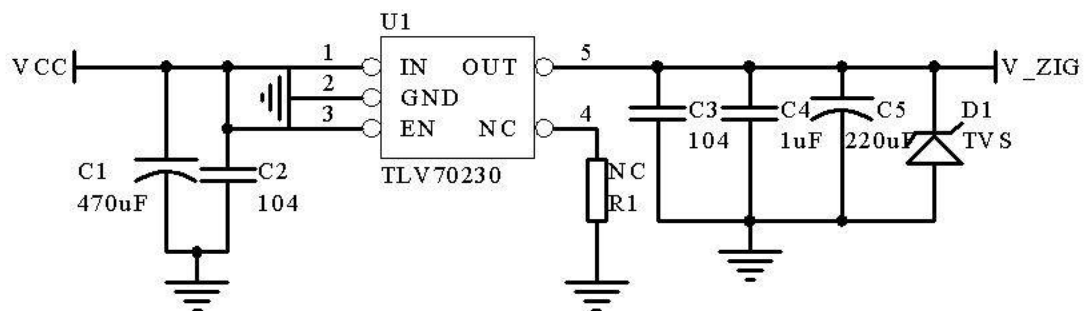

Figure 5-3 Reference circuit for power supply
- 2, Ipc as host controller: F8913D and ipc through the RS485 bus is linked together, need to use level conversion chips for level conversion (such as SP3485), as shown in figure 5-3.